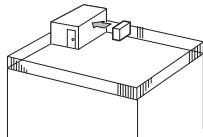

Fig. 2-3
- (1) Face the air outlet towards the nearest available wall 35 cm away from the wall. (Fig. 2-3)